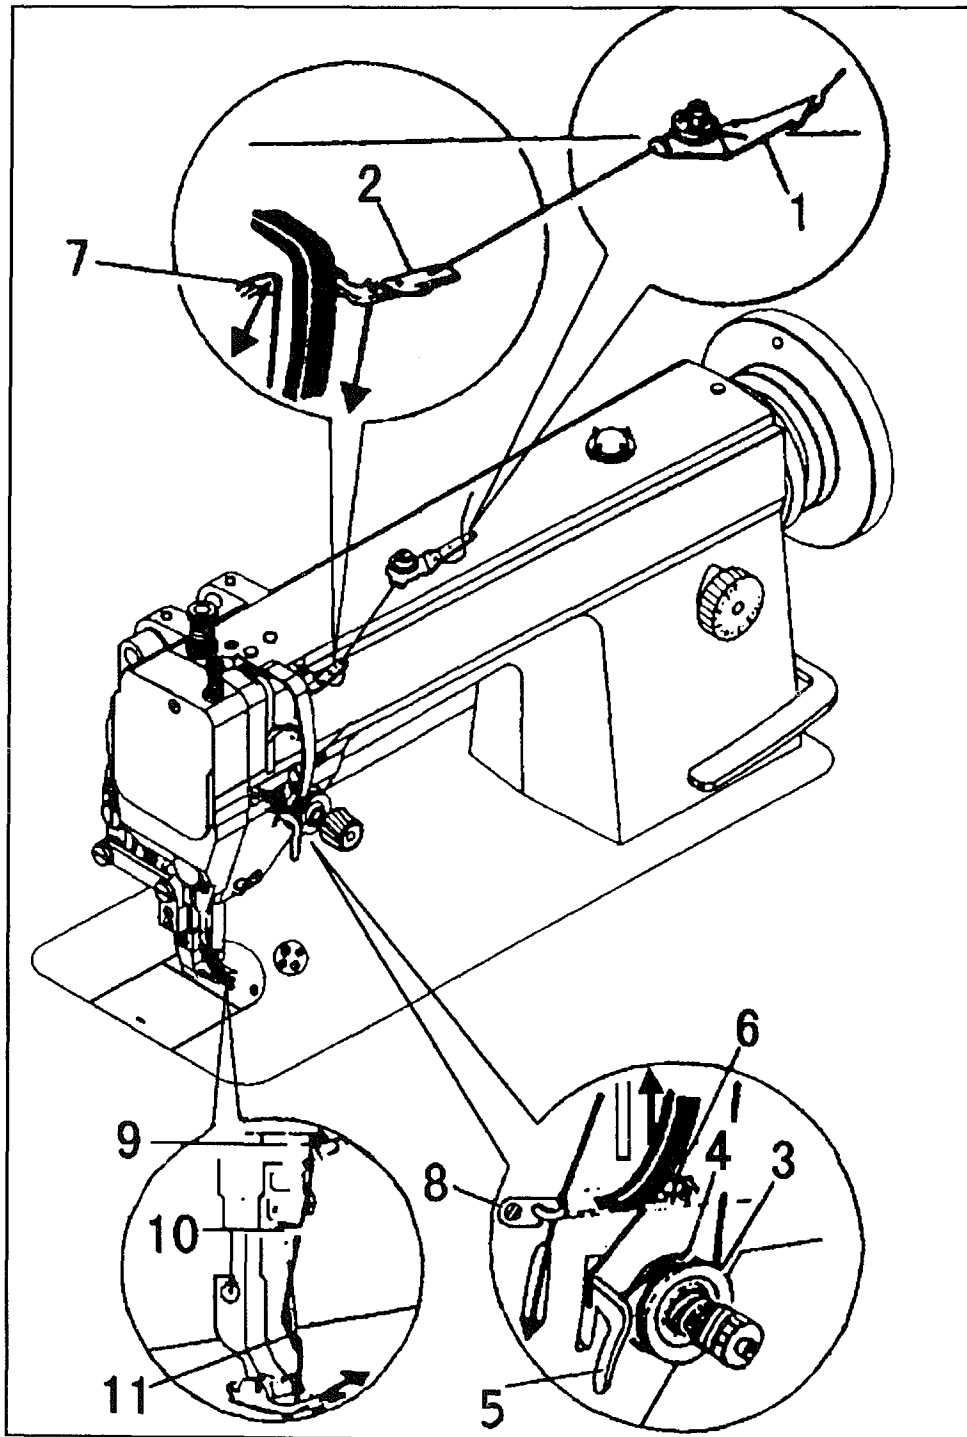

Fig.6
8. THREADING (Fig.6)
To thread the needle thread, raise needle bar to the upper end of its stroke, lead the thread from spool and perform threading as shown in Fig.6 . To draw the bobbin thread, hold the end of the needle thread and turn the balance wheel to lower the needle bar and then to lift it to its highest position. Pull the needle thread and the bobbin thread is drawn up. Put the ends of needle thread and bobbin thread frontward under presser foot.